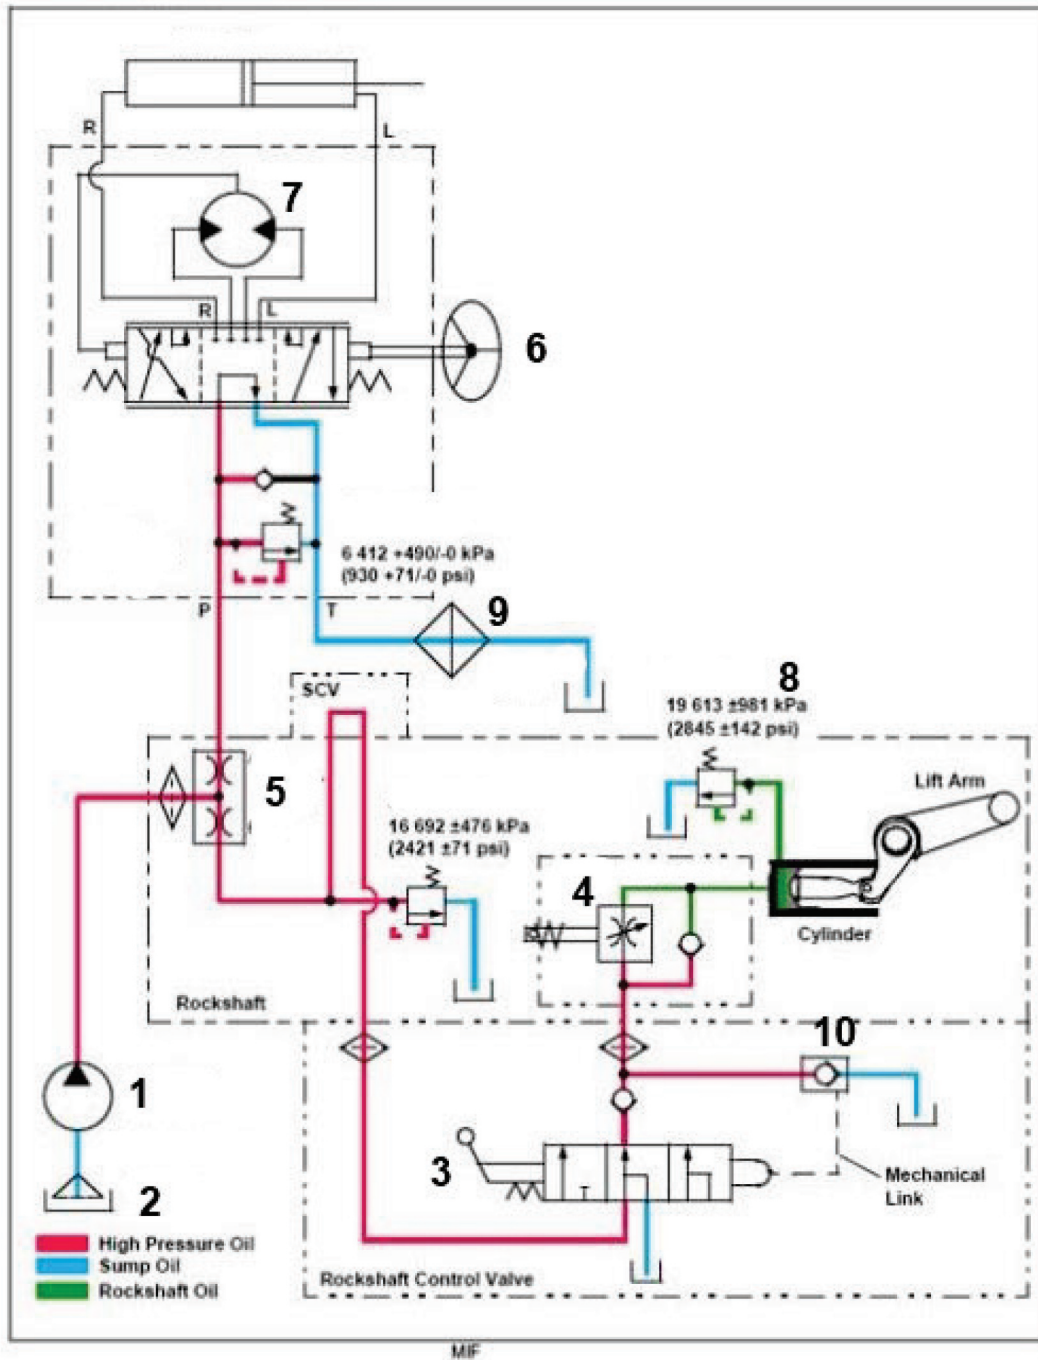

Figure 2
7 A hydraulic circuit using ISO standard hydraulic symbols is shown in Figure 2.
a) Name the parts labelled 1, 4 and 9 in Figure 2. (3 marks)
b) State the type of hydraulic system shown in Figure 2. (1 mark)
c) Describe the operation of the parts labelled 6, 8 and 10, in Figure 2. (6 marks)